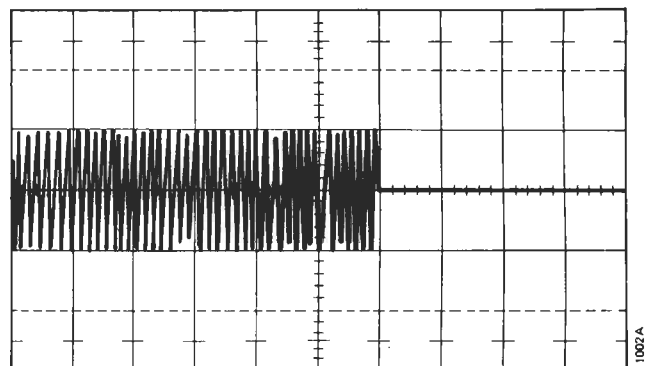

Figure 4-7. Index Pulse Timing Waveform
9. Verify that the signal burst (on the alignment diskette) occurs  $200 \pm 100$  microseconds after the start of sweep (index pulse). See Figure 4-7.